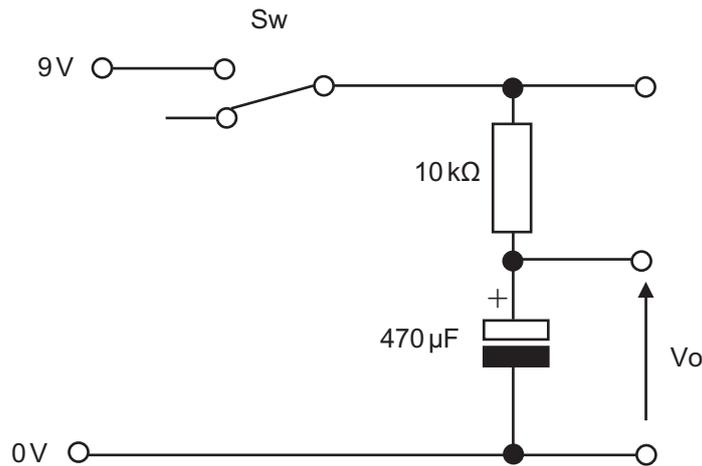

Fig. 9(a)
- 9 (a) The circuit shown in **Fig. 9(a)** allows a capacitor to charge up through a resistor.
- (i) State the formula for time constant for the circuit shown in **Fig. 9(a)** and then calculate the time constant. [2]